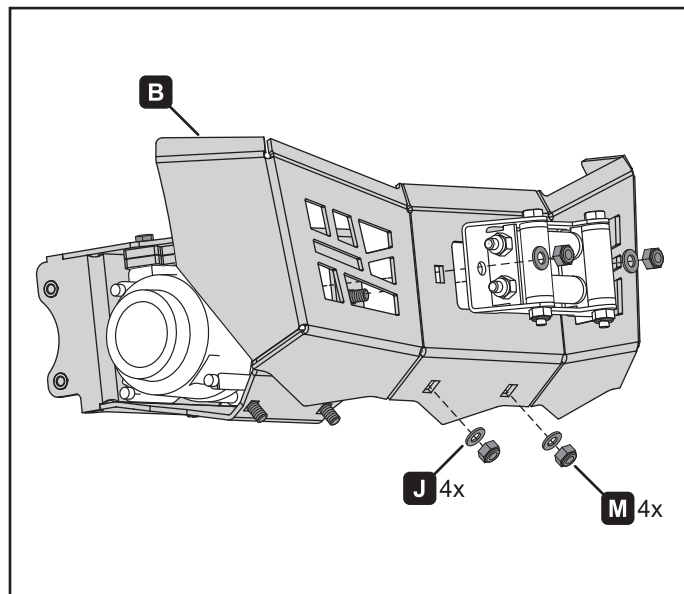

Figure 7.
4. Install your fairlead and the winch cowling (B) to the winch mount (A) with washers (J) and nuts (M), as shown in figure 7.